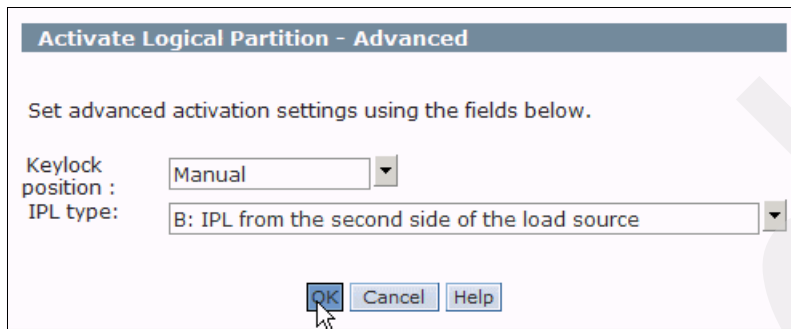

Figure 6-4 Changing the IPL type setting
5. In the Activate Logical Partition - Advanced window, for the Keylock position, select **Manual**. For IPL type, select **B: IPL from the second side of the load source**. Then, click **OK** to set the activation setting. See Figure 6-4.